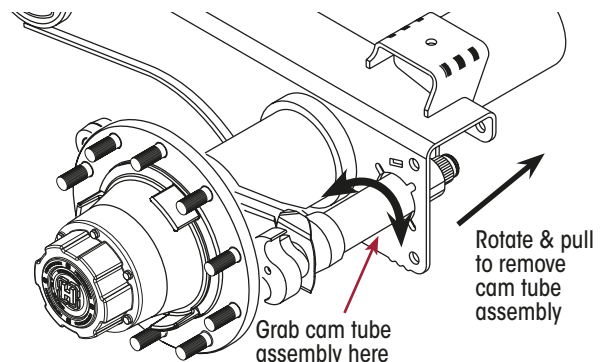

Figure 67: INTRAAX Cam Tube Assembly Removal
3. Pull the cam tube assembly free from the spider (use a back-and-forth rotating motion) and slide it out through the mounting hole in the suspension beam (Figure 67).